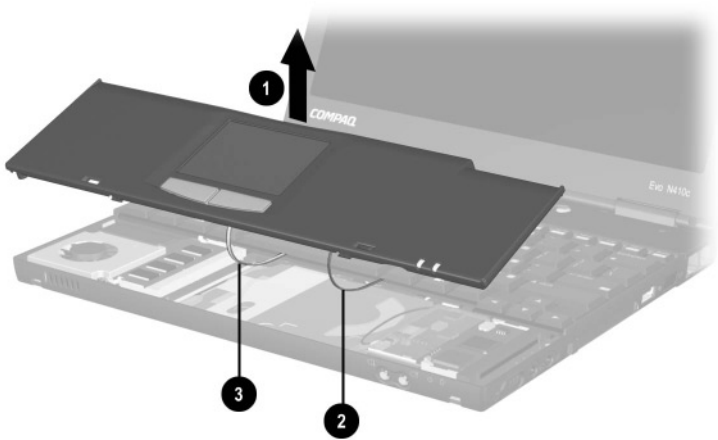

Figure 5-7. Releasing the Palm Rest (continued)
7. Lift up the back edge of the palm rest ❶ until the RTC battery ❷ and TouchPad cables ❸ prevent it from lifting any farther (Figure 5-7).